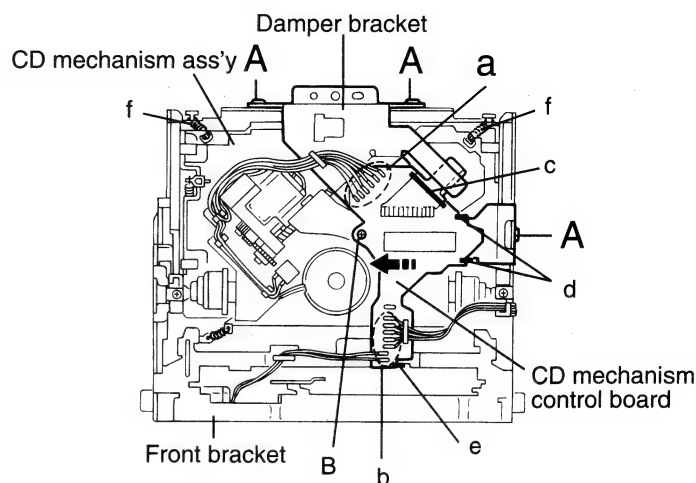

Fig.1
■ Removing the front chassis (See Fig.1)
■ Removing the CD mechanism control board (See Fig.1 and 2)
(See Fig.1, 6 to 9)